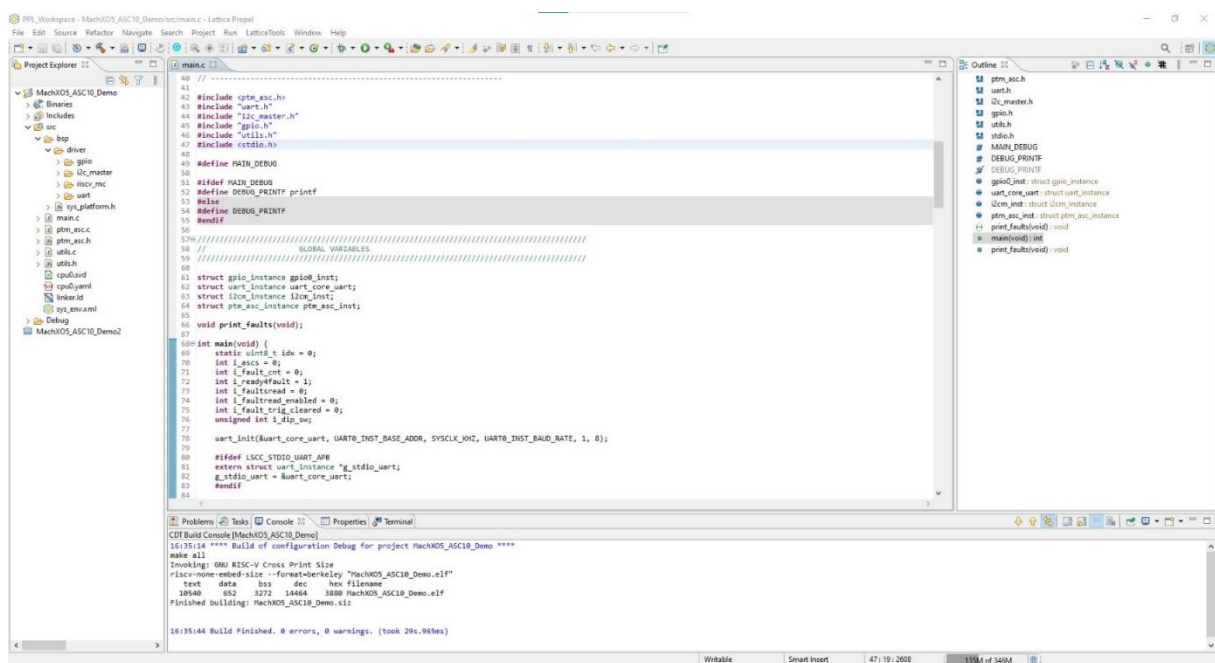

Figure 3.44. Propel SDK – IDE main.c File
- The Propel SDK environment will be displayed with the **main.c** file open as shown in Figure 3.44.